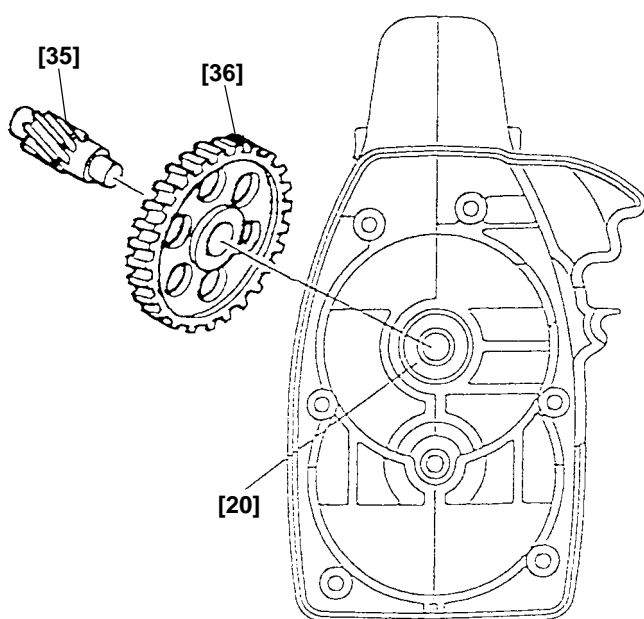

Fig. 41
(i) Insert the Ball Bearing 608VVC2PS2L [20] in the ball bearing chamber of Housing (A) [2] (Fig. 41).
(ii) Press-fit the Third Pinion [35] in the Second Gear [36] and insert it in the Ball Bearing 608VVC2PS2L [20] of Housing (A) [2] (Fig. 41). At this time, apply grease (Nippeco SEP-3A) to the outer circumference of the Second Gear [36].